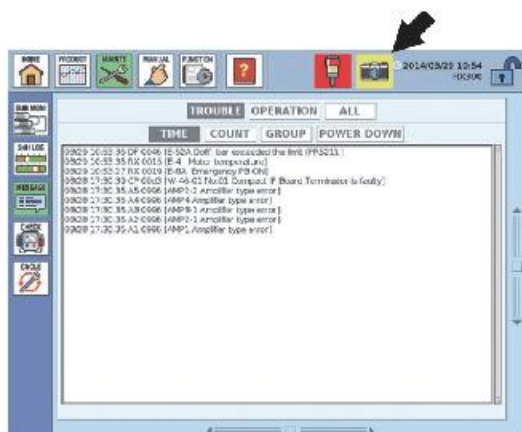

Fig. 15 [CAMERA] icon displayed on top menu
- (2) The [CAMERA] icon appears on the top menu. (Fig. 15)
- (3) Display a screen to be captured.